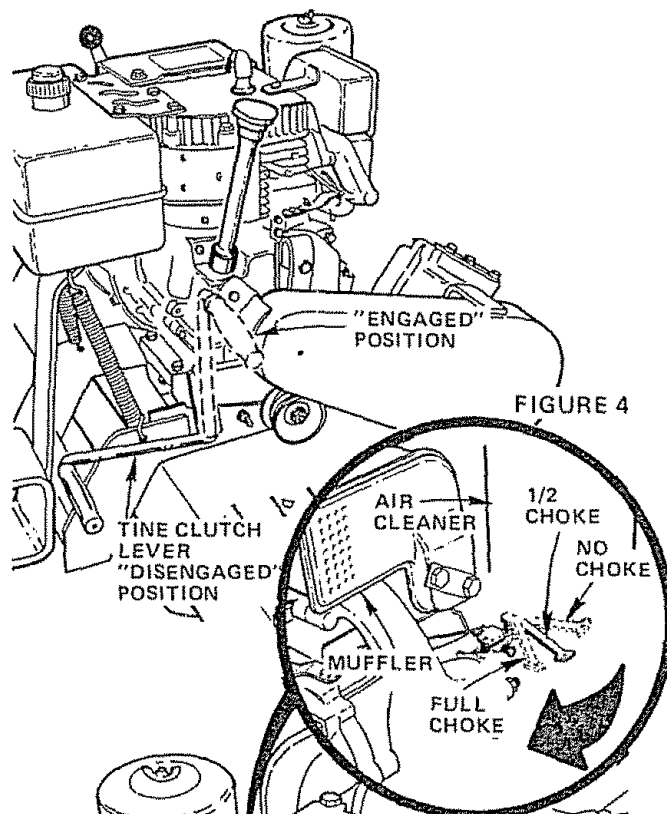
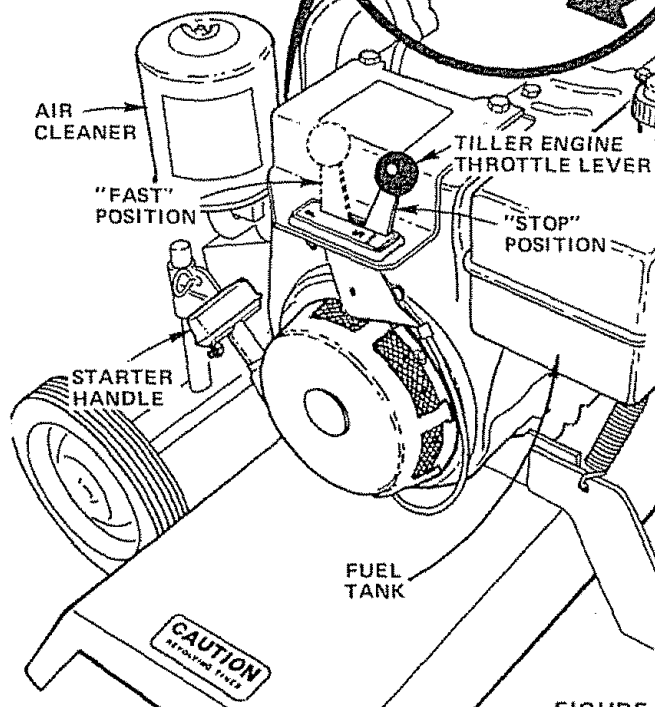

FIGURE 4
FIGURE 5
4. Disengage Tine Clutch Lever (Fig. 4).
5. Move Tiller Engine Choke Lever to "FULL CHOKE" (Fig. 5 - Inset).
6. Place Tiller Engine Throttle Lever to about 1/2 throttle (Fig. 5).
7. Grasp Starter Handle (Fig. 5), pull cord slowly until starter clutch engages, then pull slowly until resistance of compression is felt. Allow starter cord to recoil and again pull out slowly until starter clutch engages. Pull sharply. Do not allow rope to snap back. Rewind slowly keeping hold of the starter handle at all times.
8. After engine starts, move Choke Lever to "NO CHOKE" position as engine warms up (Fig. 5 - Inset).
10. Engage Tine Clutch Lever (lever pulled up - Fig. 4). Disengage and engage several times to check the clutching action of the belt. If it is not clutching properly, refer to Belt Adjustment page 9.
11. To stop Tiller and engine, disengage Tine Clutch Lever (Fig. 4) and move Throttle Lever to "STOP" position (Fig. 5).
Always disengage Tine Clutch Lever (Fig. 4) and stop engine when traveling to or from field (garden) or when not tilling.